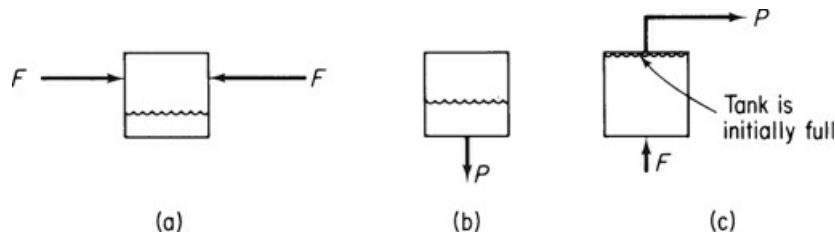

Figure P3.2.8
****3.2.8** Examine the processes in Figure P3.2.8. Each box represents a system. For each, state whether